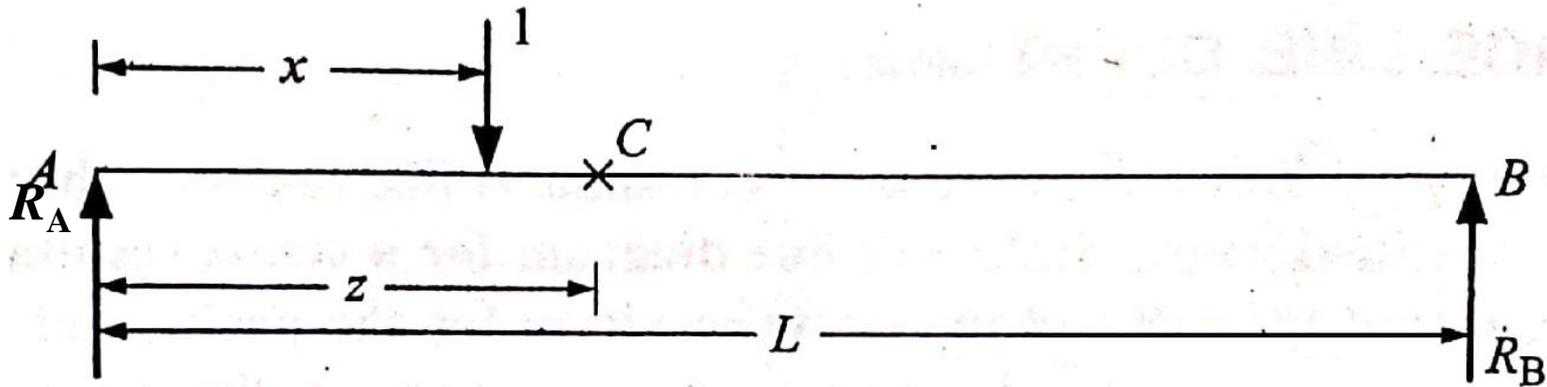

Figure 4: Beam with unit load
- Let the unit load be at a distance x from support A as shown in Figure 4.
- Hence, ILD for reaction at A (R_A) is as shown in Figure 4.
- Let C be the section at a distance z from A as shown in Figure 4.